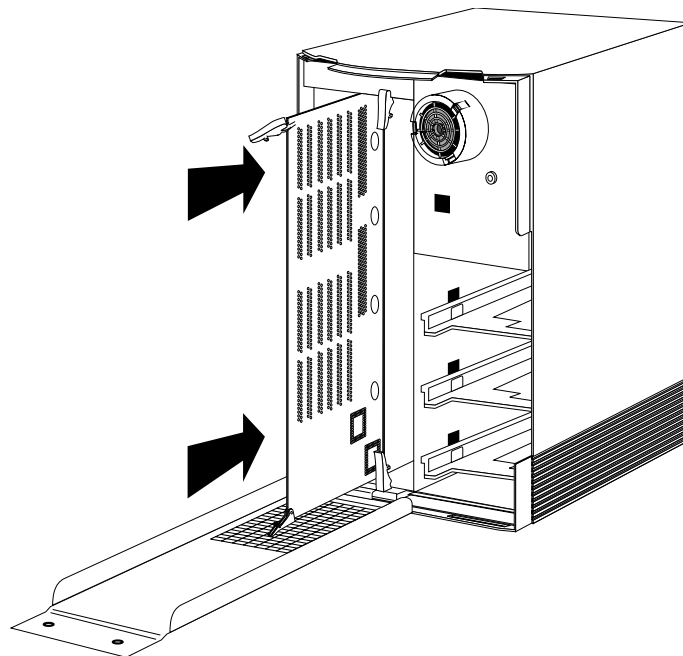

Figure 3-11 Installing the CPU Board
- Place the board in the Indigo chassis so the lever labelled **CPU** lines up with **CPU** on the Indigo chassis. The SIMMs should be facing left, as shown in Figure 3-11.